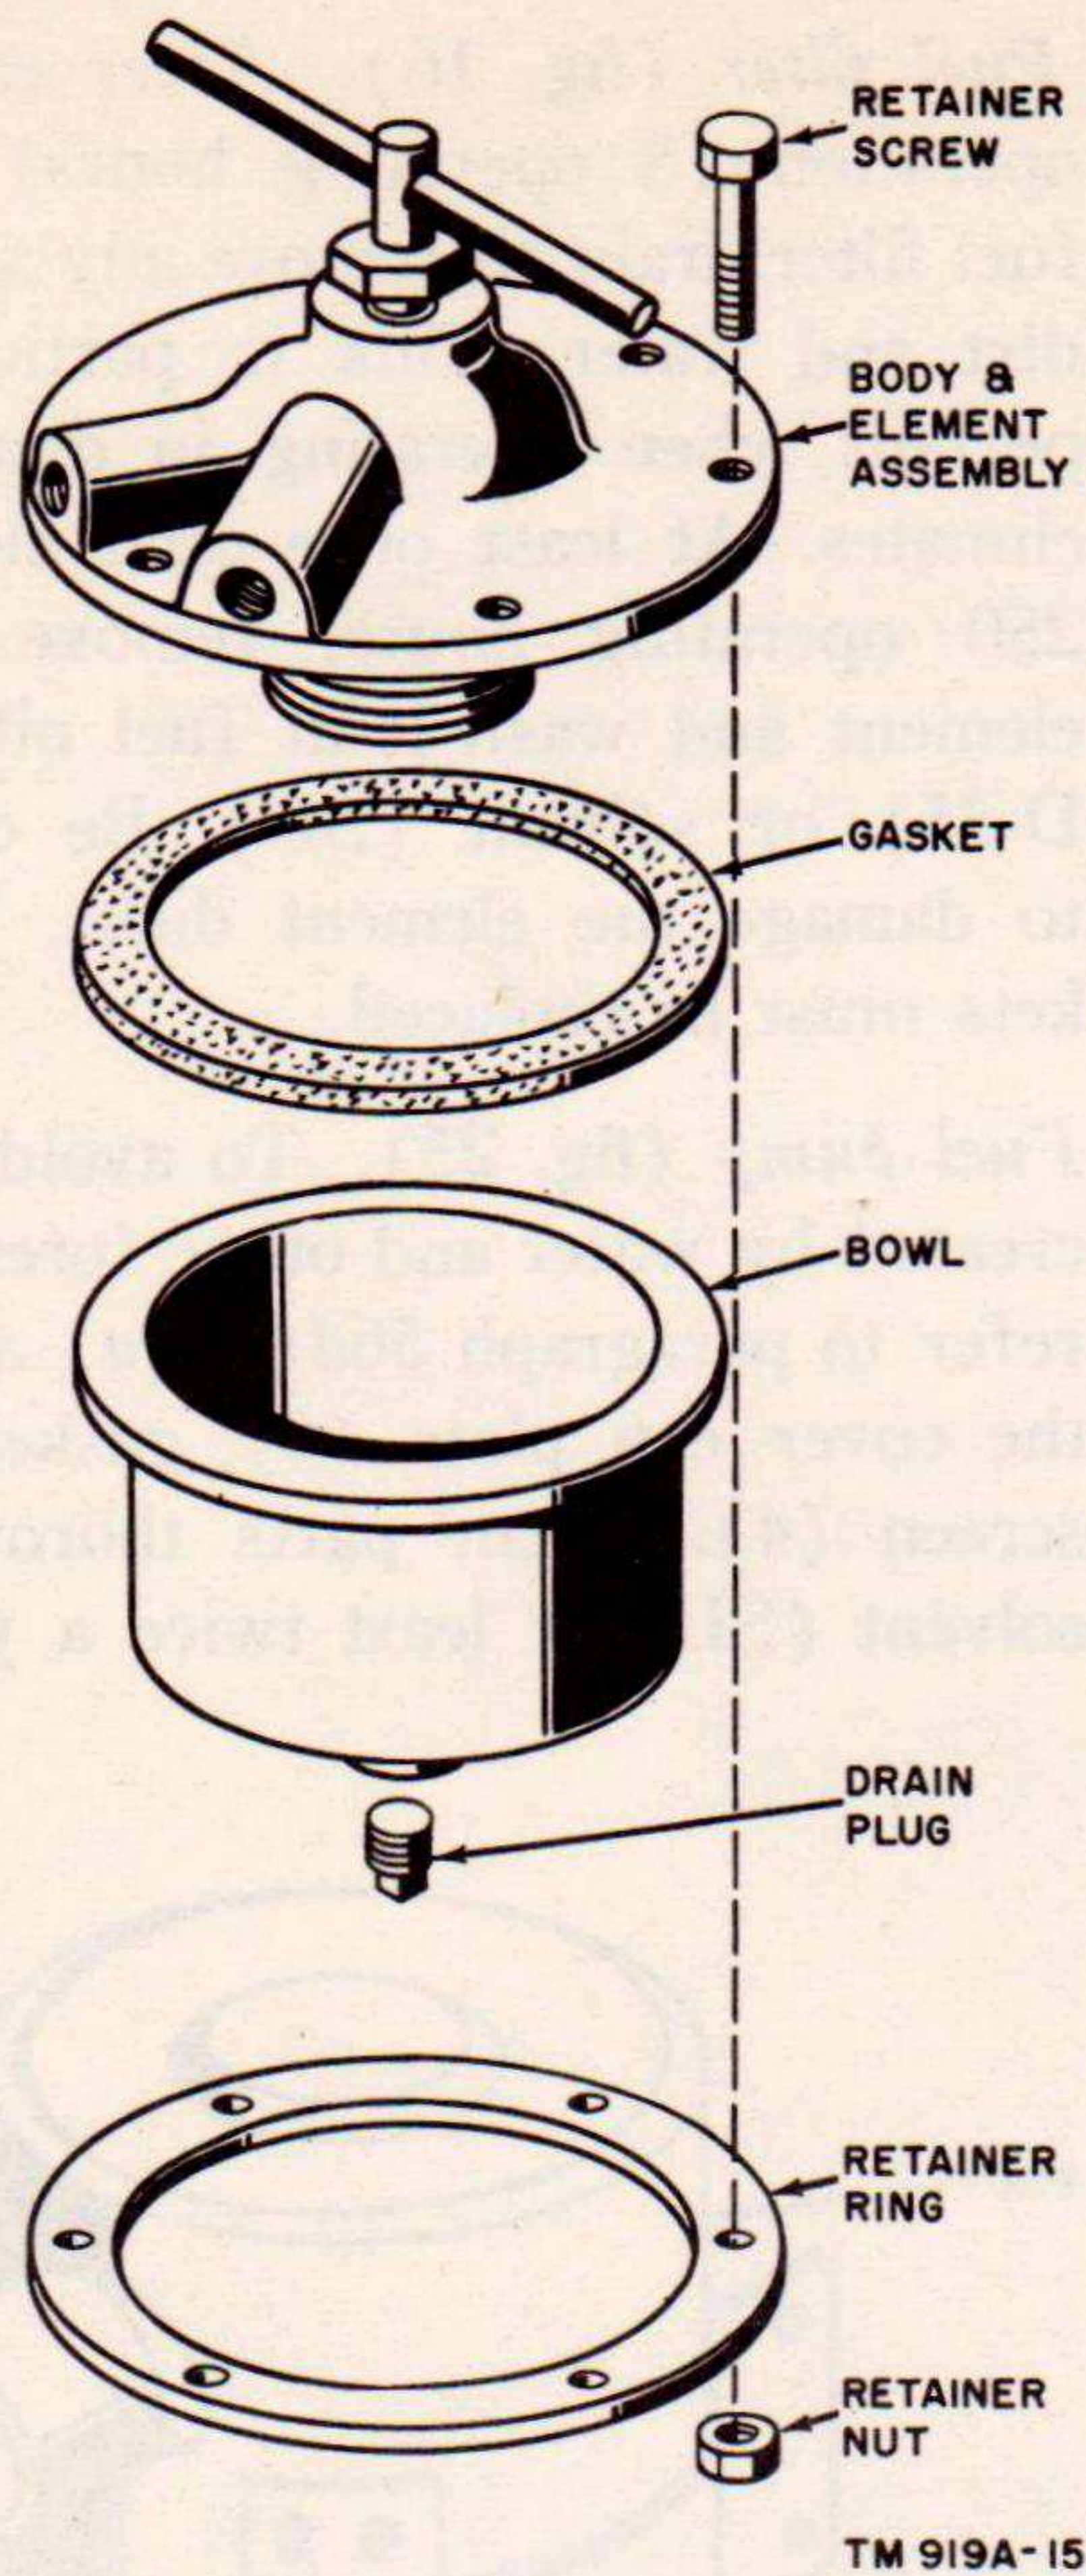

Figure 15. Oil filter, exploded view.
(3) *Oil filter* (fig. 15). Clean the oil filter element at least once every day (after 8 operating hours) by rotating the external handle 1 complete turn in either direction. Remove the plug in the filter bowl and drain the sludge from the filter with each crankcase oil change (after 50 operating hours). If the handle becomes difficult to rotate, remove the element from the housing and wash it in solvent (SD). Clean the bowl and replace the bowl gasket. If the element disks or blades are damaged, replace the body and element assembly.